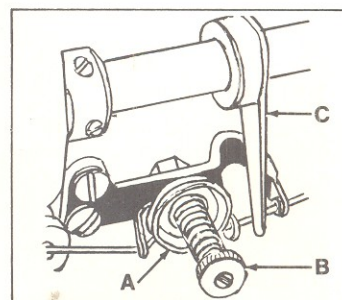

**FIGURE 24**
Spreader thread is controlled by the tension discs (A, Fig. 24) mounted on the back side of the head. Tightening or loosening the nut (B) adjusts the tension. Approximately 1/2 to 1 ounce (14.18 or 28.35 gr.) of tension is required. The strike off lever (C) should barely contact the thread in its lowest position.